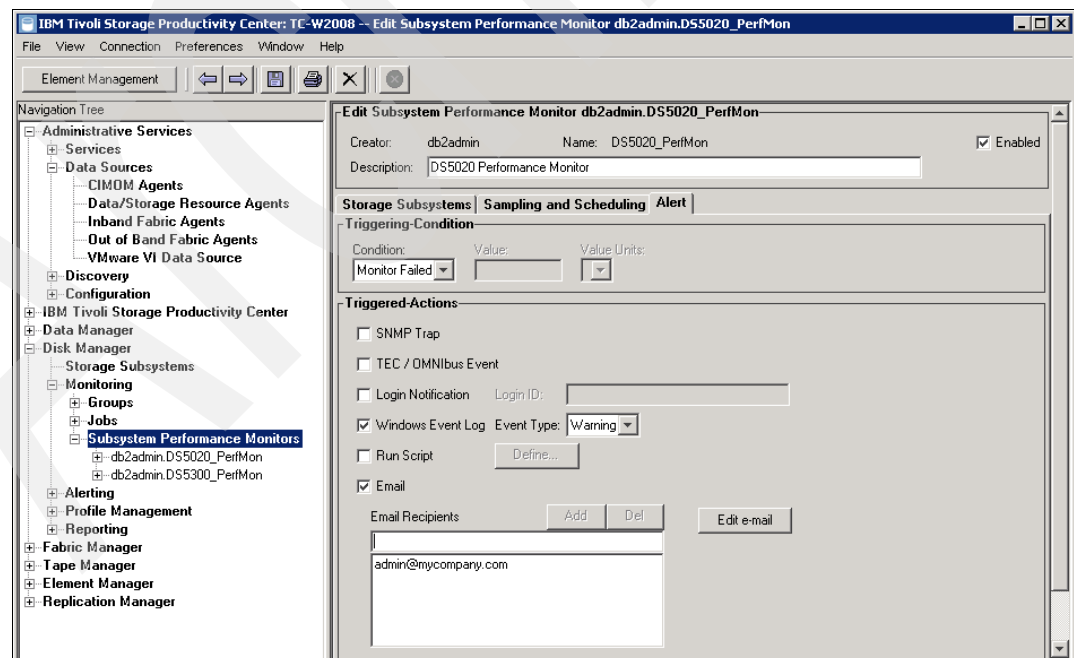

Figure 9-25 Alert tab
3. Go to the **Alert** tab to select what actions must be triggered if the monitor fails, as shown in Figure 9-25.